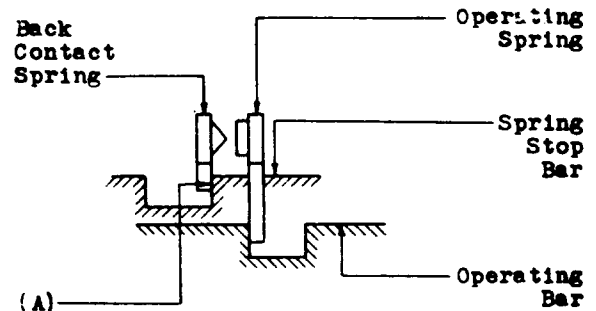

Fig. 6
(c) **Fig. 6 (A) - Back Contact Spring Tang** With the operating bar in the operating position the pressure of the back contact spring tang against the side of the notch in the spring stop bar further from the cam roller shall be